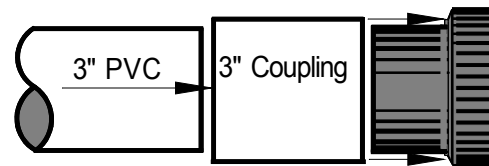

Figure 5
5. If the A&A layout calls for a 3" suction line, a 3" coupling can be glued over the Union Coupler and then a 3" PVC pipe can be glued into the coupling (see Figure 5).